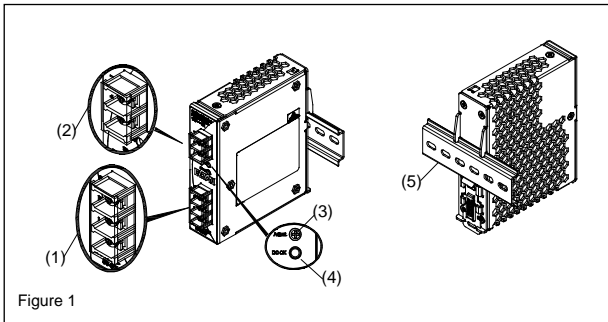
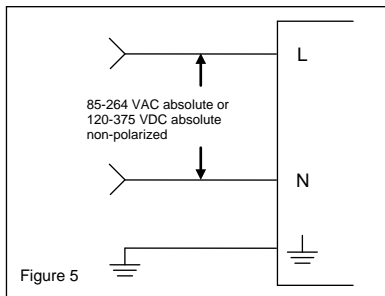

Figure 1
Figure 5
2. Device description (Fig. 1)
5.1. Input connection (Fig. 1, Fig. 5)
Use L, N and PE connections of input terminal connector (see Fig. 1 (1)) to establish the 100-240 VAC connection.
5.2. Output connection (Fig. 1 (2))
Use the "+" and "-" screw connections to establish the 12 VDC connection. The output provides 12 VDC. The output voltage can be adjusted from 11 to 14 VDC on the potentiometer. The green LED DC OK displays correct function of the output (Fig. 1 (4)). The device has a short circuit and overload protection and an overvoltage protection limited to 17.6 VDC.